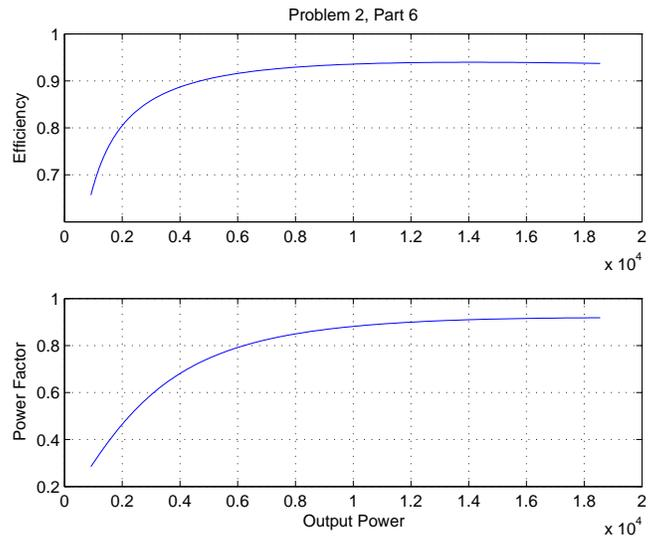

Figure 8: Efficiency and Power Factor vs. Load
6. We actually have all we need for the calculation of efficiency and power factor: all that is required is to identify which values of slip correspond with the lower and upper bounds of power. Then we can calculate efficiency (Power out/power in) and power factor (power in/apparent power) over that range of slips and do a cross-plot. This is shown in Figure 8.